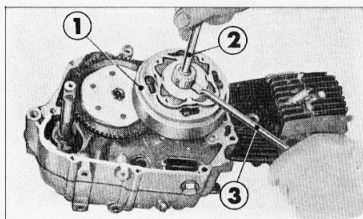

Figure 31. ① Clutch outer ② Lock nut wrench
3. Straighten the tab on the lock washer, and by using the clutch outer holder (Tool No. 07923-0400000) and lock nut wrench (Tool No. 07923-0350000), loosen the lock nut and remove the clutch assembly (Fig. 31). The clutch then is disassembled using the special tool (Tool No. 07960-0110000).